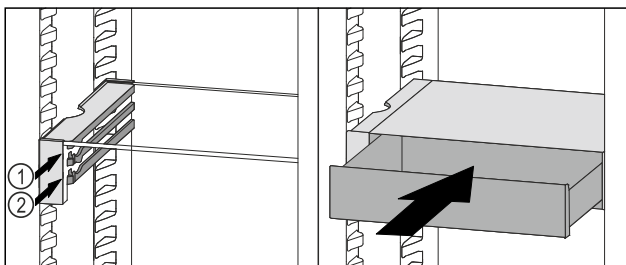

Fig. 58
- ▶ Place the VarioSafe drawer behind the stoppers on desired rib Fig. 58 (1) or Fig. 58 (2).